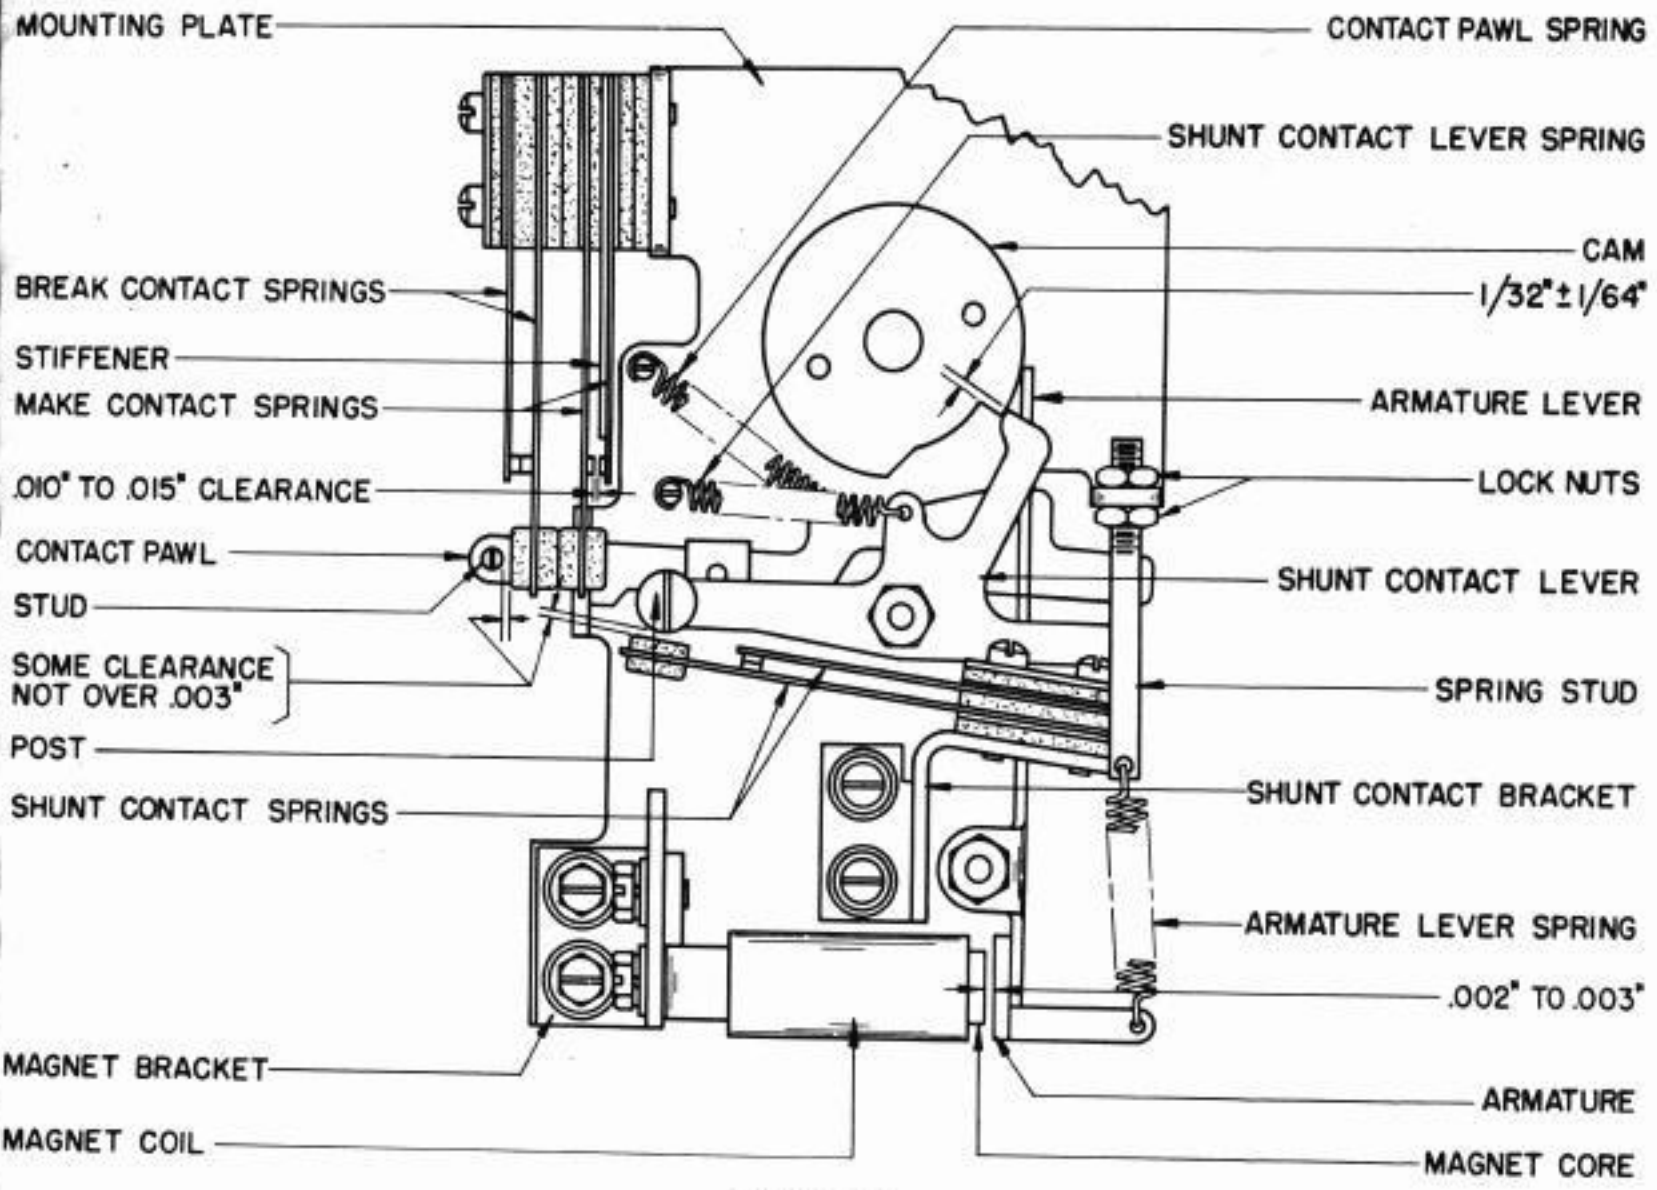

FIGURE 1
- (1) With the contact pawl in the unlatched position, the insulator on the long MAKE contact spring should just make contact with the insulator on the long BREAK contact spring. See Figure 1. To adjust, bend the long MAKE contact spring.
- (2) With the contact pawl in the unlatched position, initially tension the short MAKE contact spring against its stiffener. Under this condition the MAKE contact gap should be from .010" to .015". To adjust, bend the stiffener.
Unhook the contact pawl spring from the contact pawl, and its spring post and attach the loop of one end to some convenient object. With an 8 oz. scale hooked to the free loop it should require a pull of 3-1/2 to 4 ozs. to extend the spring to a length of 1-1/32", when pulling horizontally. See Figure 1. Replace the spring.
With the shunt contact lever on the high part of its cam, hook an 8 oz. scale to the lever (just under the point of engagement of the shunt contact lever with the cam) and pull in a direction parallel to the side of the base casting. See Figure 1. It should require 6 to 8 ozs. to start the shunt contact lever moving away from the cam.
Unhook the armature lever spring from the armature lever and hook a 2 lb. scale through the free loop. It should require a pull of 11 to 13 ozs. to extend the spring to a length of 1-1/2", when pulling horizontally. See Figure 1. Rehook the spring.
transmitter distributor is equipped with an end-of-tape stop feature, it will be necessary to short-circuit the associated contact or to run tape through the transmitter. The break-lock mechanism should operate and stop transmission within two revolutions of the distributor after each restarting with the push rod. When properly adjusted, the break-lock mechanism should stop transmission when the signal line current is .020 ampere or less, but should not stop transmission at any time when the steady current is .025 to .030 ampere. To adjust, loosen the two nuts which lock the armature lever spring stud and position the stud. See Figure 1.